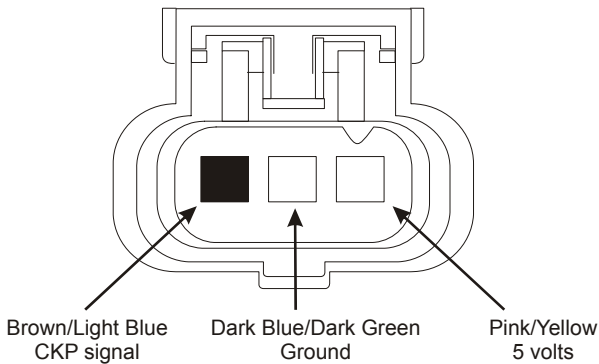

Figure 2
- The connector has three wires. Solder and seal the white wire to the brown wire with the light blue stripe (Figure 2).